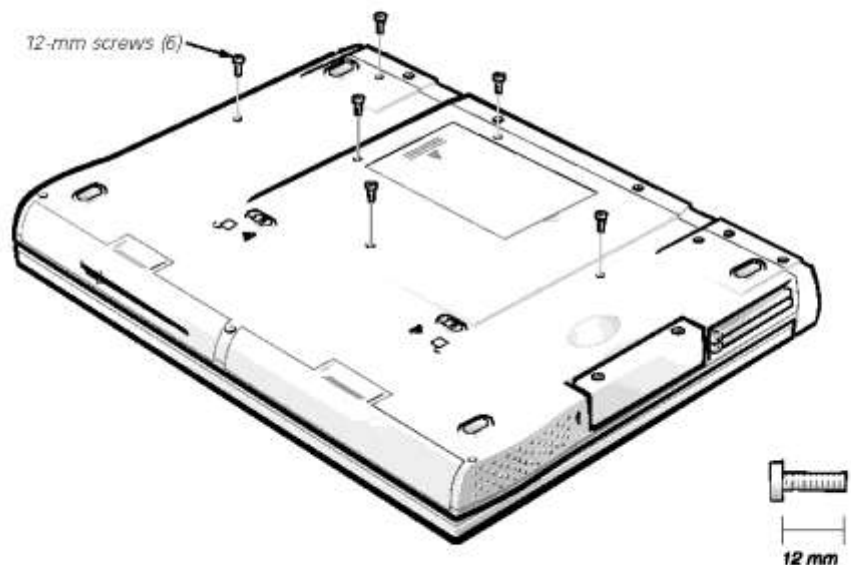

Figure 4-9. Removing the Keyboard Assembly Screws
1. Close the display assembly, and turn the computer upside down on a flat work surface (see Figure 4-9).